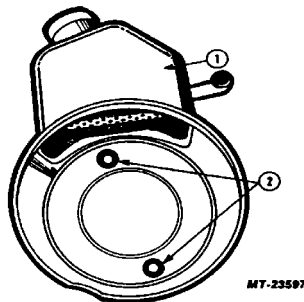

Fig. 8 Sealing Washer Location
8. Replace reservoir gasket and sealing washers on inside of reservoir (Figure 8) and install reservoir. Seat reservoir by placing a wood block against rear of reservoir and rapping block with a hammer.